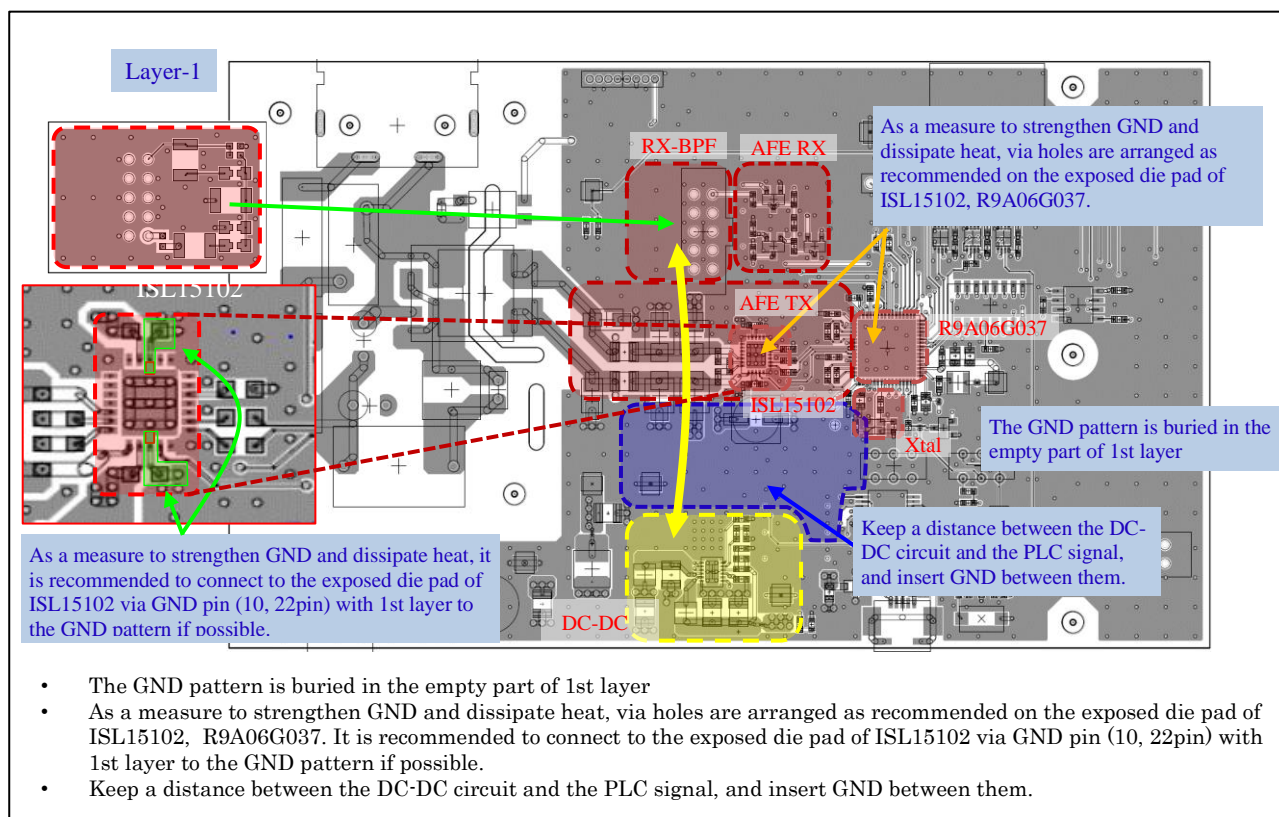

Figure 2-12 Example of connection between exposed die pad of R9A06G037 and ISL15102 and GND pattern (1st Layer)
- In the 1st layer, connect the Exposed die pad of ISL15102 to the GND plane of the first layer as much as possible to improve heat dissipation. (An example is shown in Figure 2-12.)